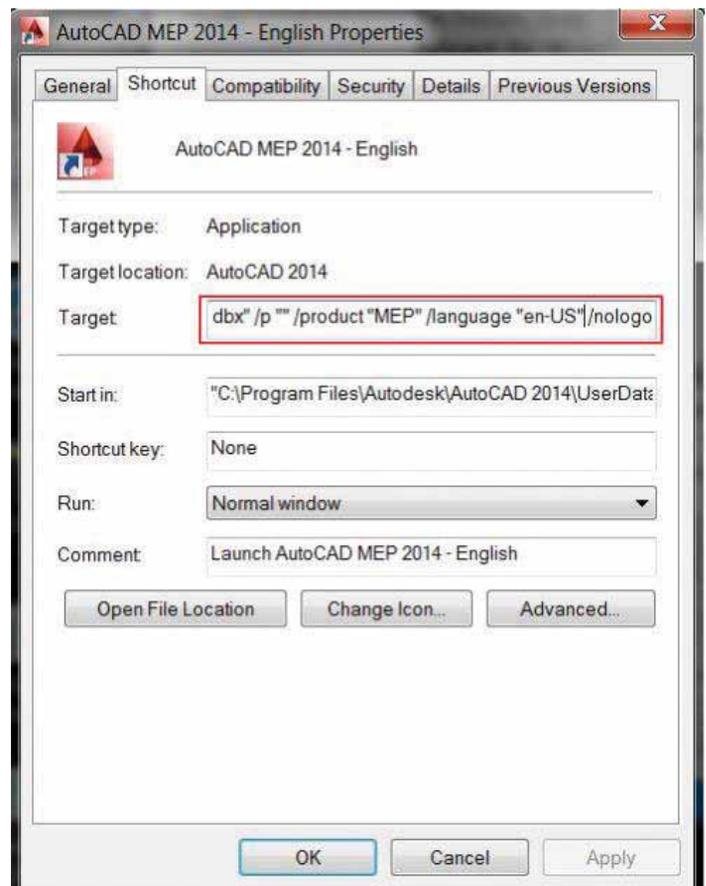

Figure 4: Target location in Properties menu
- When the Properties dialog box opens, notice the target location (Figure 4), which currently points to: